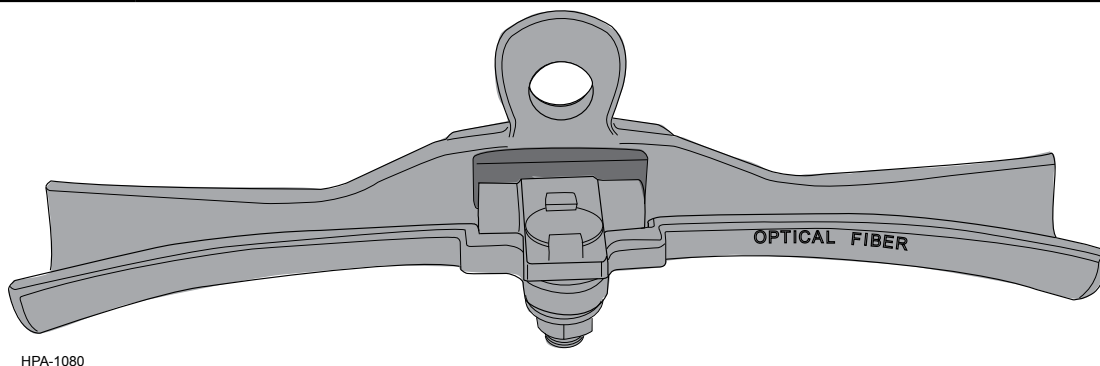

Figure 1
1.1 This procedure provides general instructions for the Corning Optical Communications RPX® Cable Suspension Clamp (p/n RPX-SUSP-H1) (Figure 1) for RPX Gel-free Ribbon and FlexNAP™ System RPX Cables used in a self-supporting aerial installation.